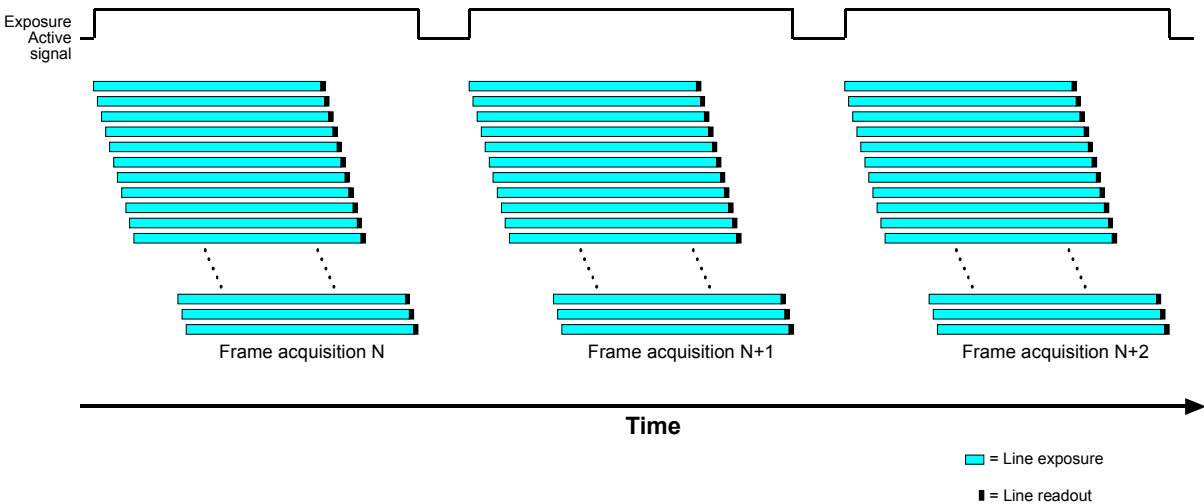

Fig. 89: Exposure Active Signal on Cameras with a Rolling Shutter
- low when exposure for the last line ends as shown in Figure 89.